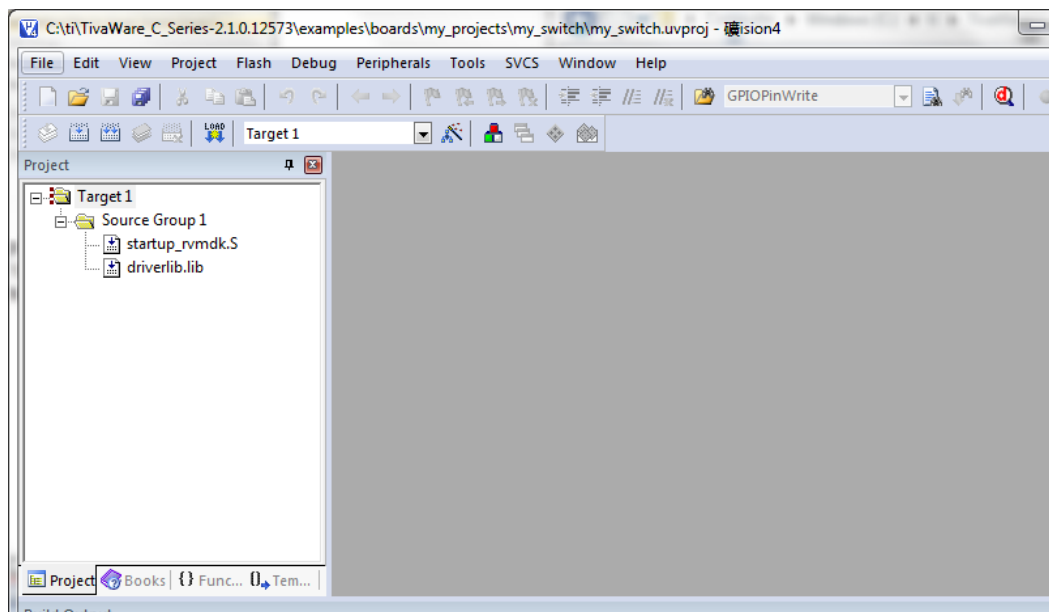

Figure 21
7. Add TivaWare Hooks. To use the functions in the TivaWare library, we need to add the **driverlib.lib** file to the project. Right-click the *Source Group 1* folder in the µVision IDE and select *Add Existing Files to Group 'Source Group 1'...* When the dialog box pops up to find the file, browse to the directory *C:\ti\TivaWare_C_Series-2.1.0.12573\driverlib\rvmdk*, select **driverlib.lib**, and add it to *Source Group 1* (see Figure 21).